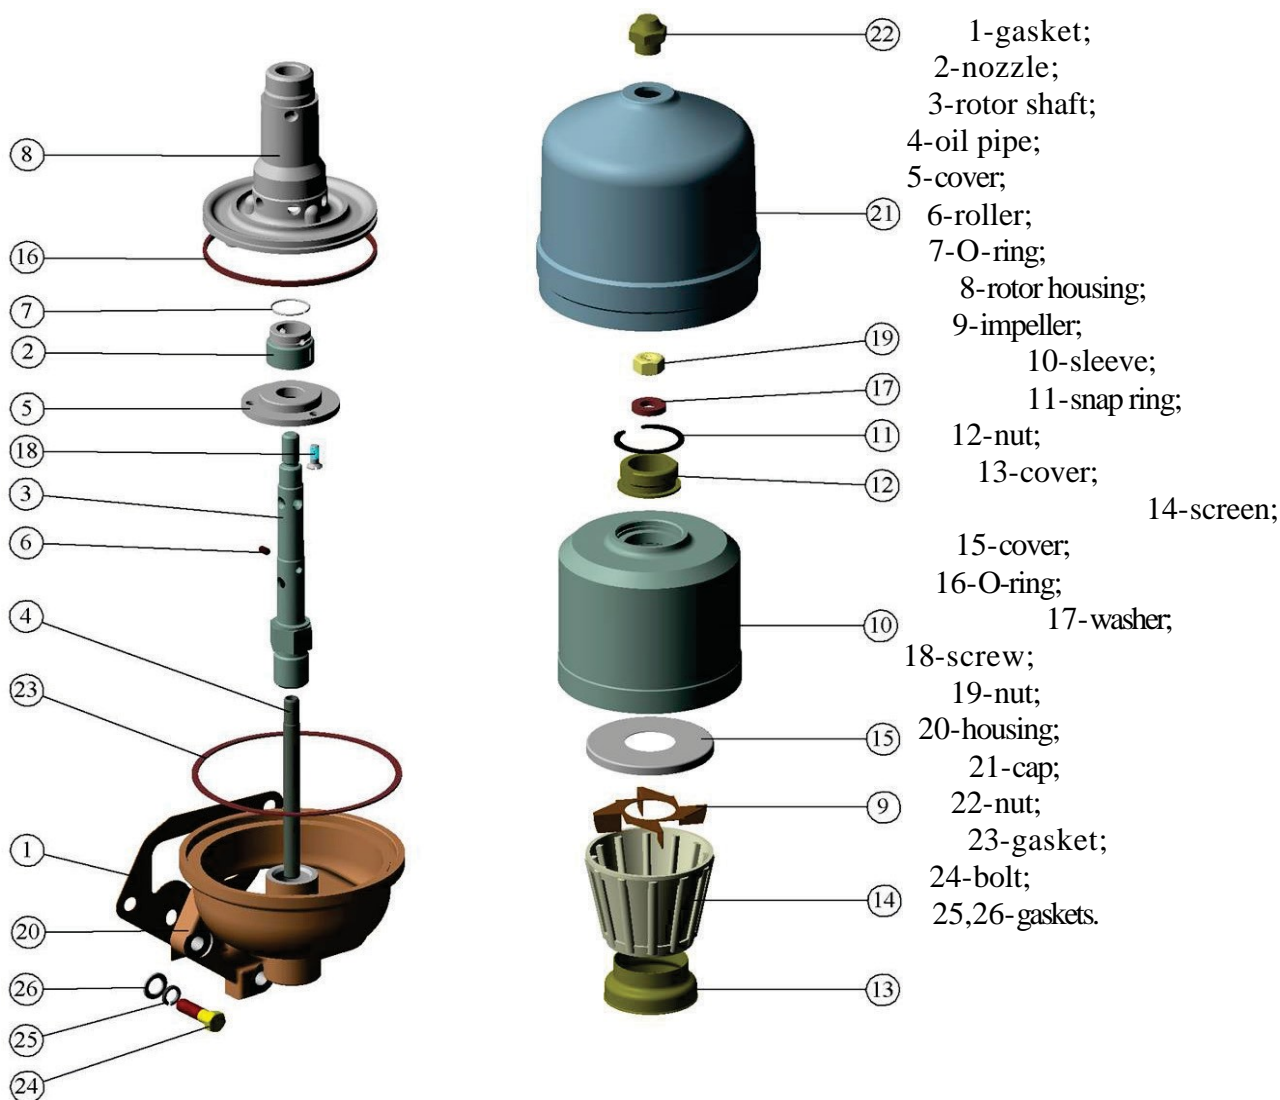

Figure 8.25
**Procedures 17, 18. Cleaning the Rotors of the Centrifugal Oil Filters of the Engine and Gear-Box, Respectively (fig.8.25)**